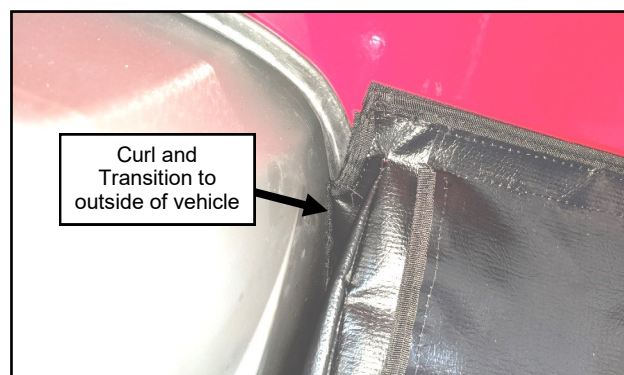

Fig. 20.5 (Transition Filler To Outside)
- 20.5** Secure the top edge of the filler to the Cowl. See Figure 20.5. Curl the inner edge and transition it to the outside of the vehicle under the rubber cowl flap.